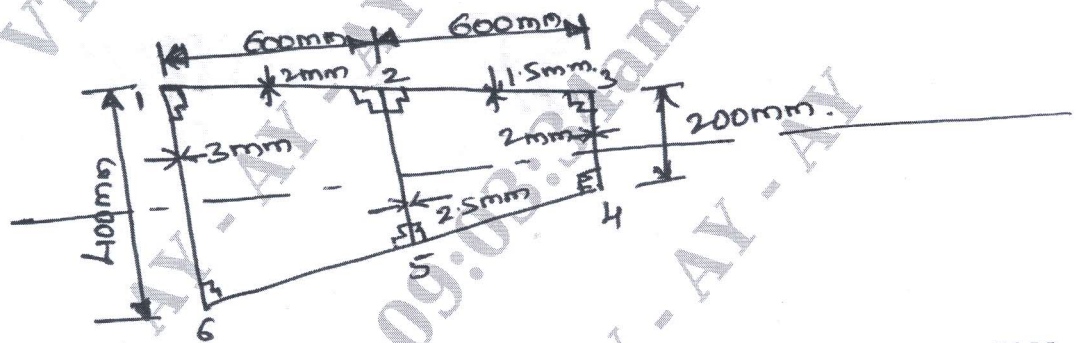

Fig. Q7 (a)
- 7 a. A wing section is in the form of 2 cell box as shown in Fig. Q7 (a), in which vertical spars are connected to the wing skin through angle section, all having cross sectional area of  $300 \text{ mm}^2$ . Idealize the section.